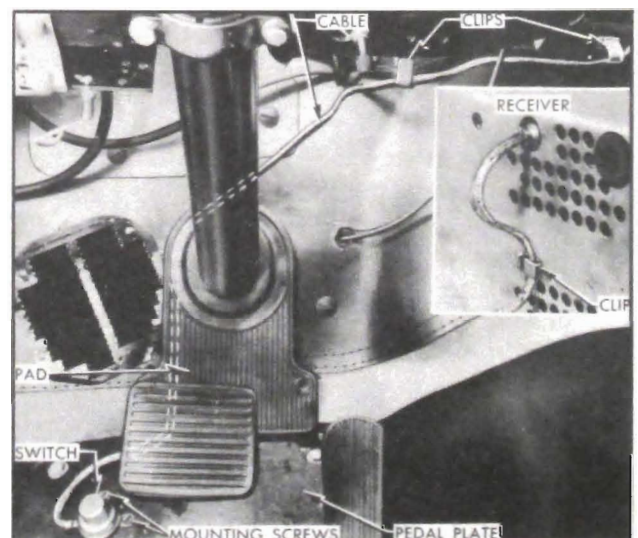

Figure 11-10—Foot Control Switch Installation
3. Lead the control switch cable up behind left edge of steering column pad and support it in wiring harness clips on rear side of cowl. Plug cable into receiver and attach it to clip on receiver cover. See figure 11-10. **CAUTION:** *Make certain that cable does not contact windshield wiper drive cables when wiper is running.*